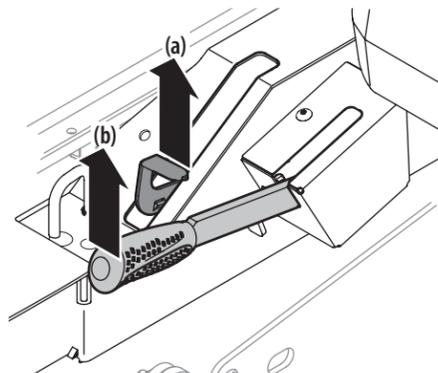

Figure 2-2
4. Engage the transmission bypass valves by pulling the bypass lever (a) outward then upward and all the way back. See Figure 2-2.